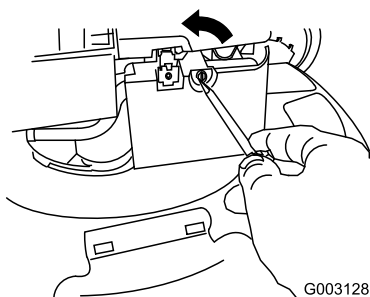

Figure 42
2. Use a screw driver to open the air filter cover (Figure 42).